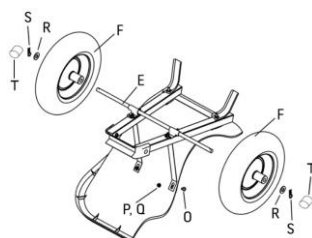

Fig. 8
16. Slide the axle (E) through both axle brackets (Fig. 8).
17. Place the wheel assembly (F) and then a flat washer (R) onto the end of the axle (Fig. 8).
18. Secure by attaching the cotter pin (S) through the hole in the end of the axle (Fig. 8).
20. Use 8 x 20 mm bolts and lock washers and nuts to attach the tops of the tray braces to the tray (Fig. 8).
22. Put on the axle covers (T) (Fig. 8).